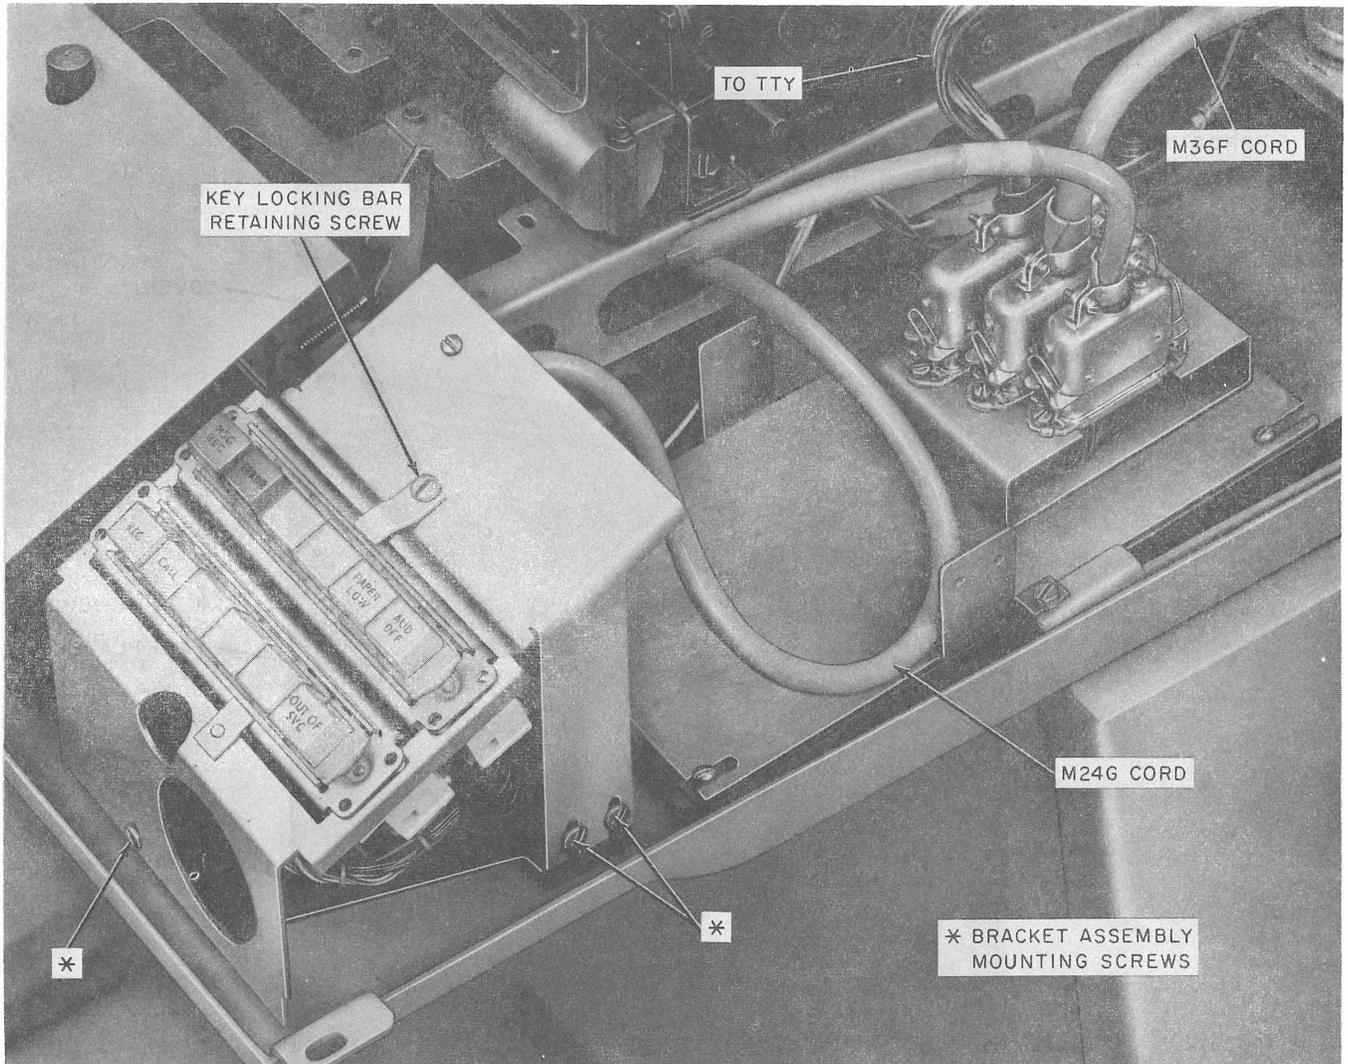

Fig. 15—35 RO TTY Data Station—Data Auxiliary Set 804N2
- (5) Loosen but do not remove the five bracket assembly mounting screws on the attendant set (Fig. 15).
- (6) Disconnect plug on the M24G cord (part of the 804N2 attendant set) from the connector at the rear of the attendant set.
- (7) Remove the mounting bracket, key and lamp assembly, and loudspeaker from the TTY.